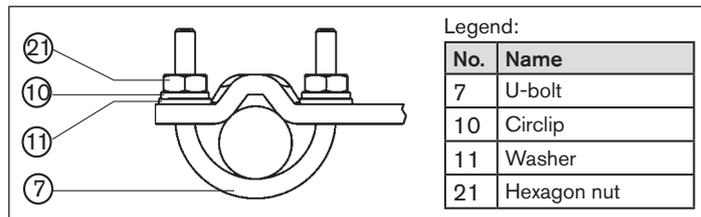

Fig. 10: Attach Type 8792/8793 with mounting bracket; for actuators with columnar yoke
→ Attach mounting bracket to the columnar yoke with the U-bolt (7), washers (11), circlips (10) and hexagon nuts (21) (see "Fig. 10").